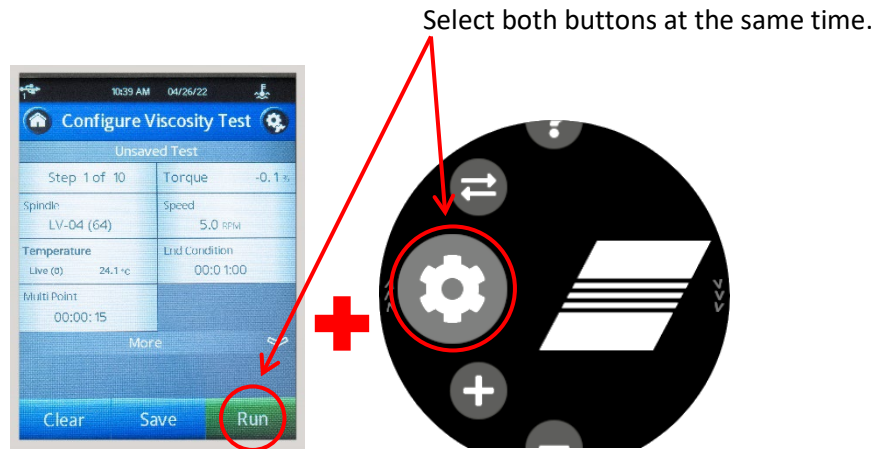

Figure 48: Screens on the Base and Head Units to Begin Calibration
4. At same time, press **Run** on the Head Unit and the calibration button on the Base Unit. See Figure 48.